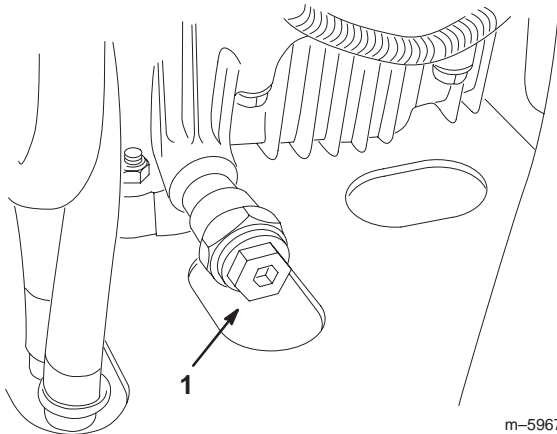

Figure 38
5. Place a pan under the oil drain hole in the engine frame. Remove the oil drain plug (Fig. 38).